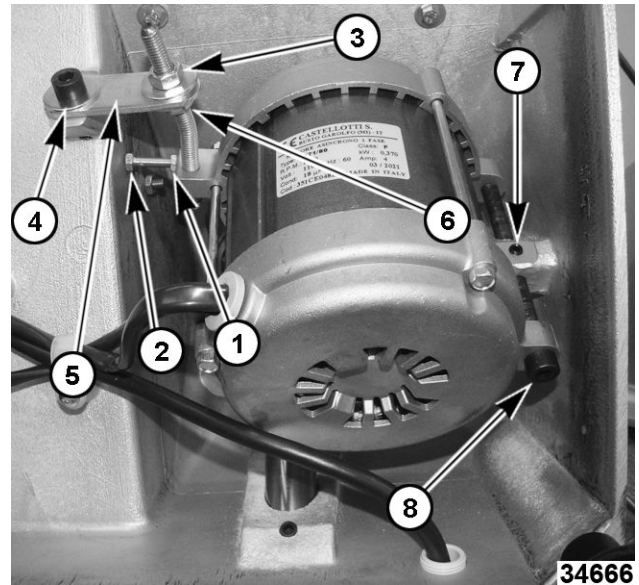

Fig. 43
5. Back off the stop screw jam nut (1, Fig. 43) and thread the stop screw (2) into the motor housing.
6. Loosen the pivot pin set screw (7, Fig. 43).
7. Loosen the tensioner jam nut (6, Fig. 43).
8. Turn the top nut (3, Fig. 43) to adjust belt tension.